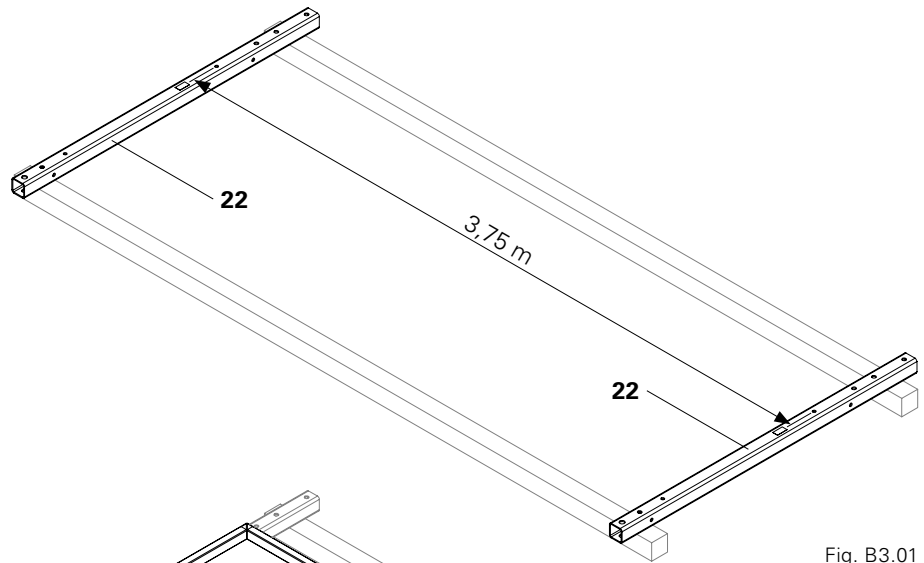

Fig. B3.01
1. Position Guardrail Posts RCS-MP (22) at a distance of 3.75 m from each other on timbers. (Fig. B3.01)